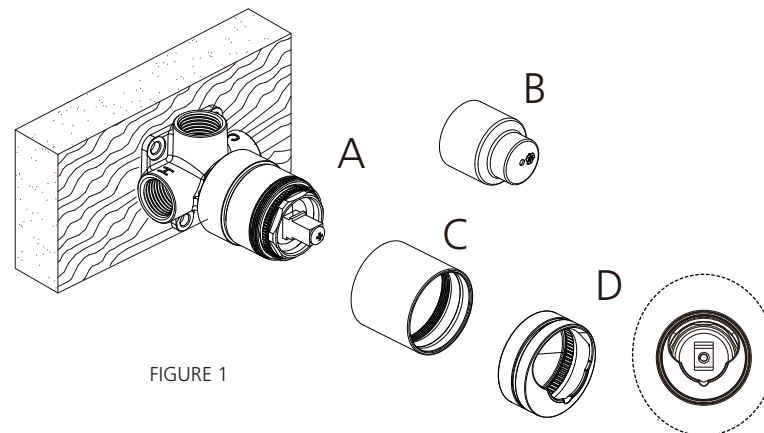
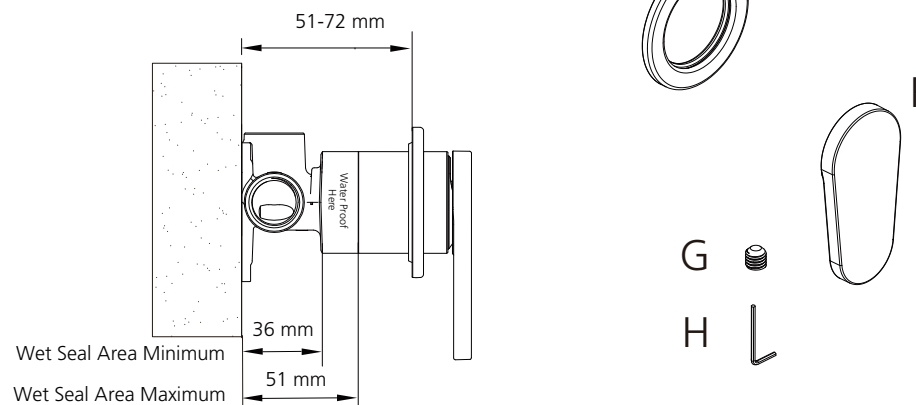

FIGURE 1
FIGURE 2
2. Ensure Product is complete as per exploded drawing (Figure 1). Inwall Body components are labelled: A, B.
3. All Wall Mixer Bodies are supplied with a Plastic Protection Body Cover (B). Ensure the Body Cover (B) remains on the Mixer Body, prior to and during installation to prevent any damage.
4. Screw Mixer Body (A) to the Stud Wall or Brick Cavity taking into account the wet seal area minimum and maximum set out from the back of Mixer to the finished wall surface (Figure 2).
**Attention: Please do not remove Protective Cover (B).**
2. Ensure Product is complete as per exploded drawing (Figure 1). Trim Kit components are labelled C through H.
3. Remove Protective Cap (B) from installed Inwall Mixer Body.
4. Screw Decorative Sleeve (C) to Body (A), applying plumbing-grade grease to the O-ring.
5. Press Decorative Cover (D) into Finishing Sleeve (C) with the cut-out at the bottom.
6. Slide Mixer Wall Plate (E) into place. N.B. Wall Plates are fitted with concealed sealing washers. To assist with assembly of the Wall Plate onto the Mixer Body, apply soapy water or plumber's grade grease to the concealed sealing washers.
7. Fit Mixer Handle (F).
8. Screw in Handle Grub Screw (G) using Allen Key (H) to secure Mixer Handle in place.